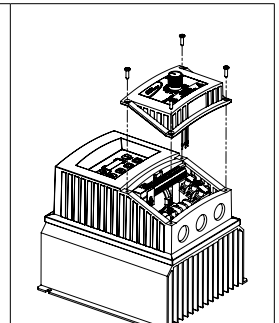

Figure 3: Replace Potentiometer as SMV Terminal Cover
4. Align potentiometer for replacing cover, then secure, as shown in Figure 3.